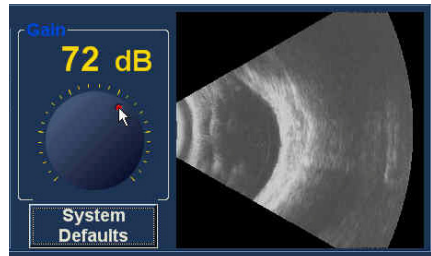

Figure 4.42 - Selecting Gain Adjustment
1. Select the red drag point the gain adjustment knob as shown in Figure 4.42.